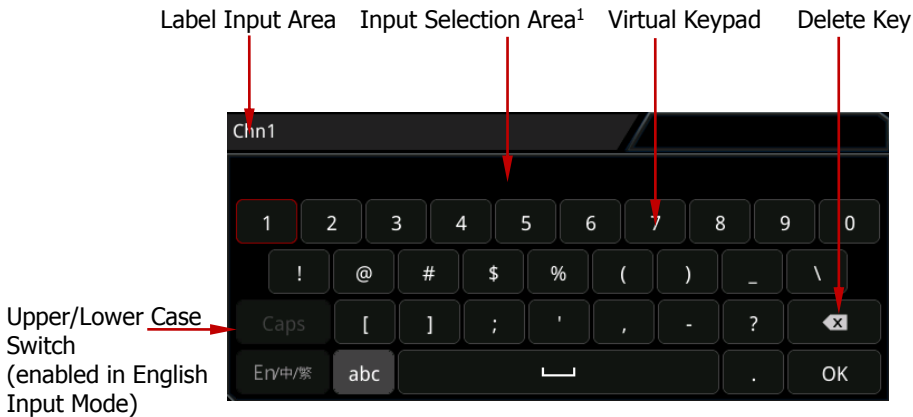

Figure 2-3 Label Editing Interface
- Press **Label** and the label editing interface is automatically displayed as shown in Figure 2-3. You can input the label manually. For the label input method, refer to